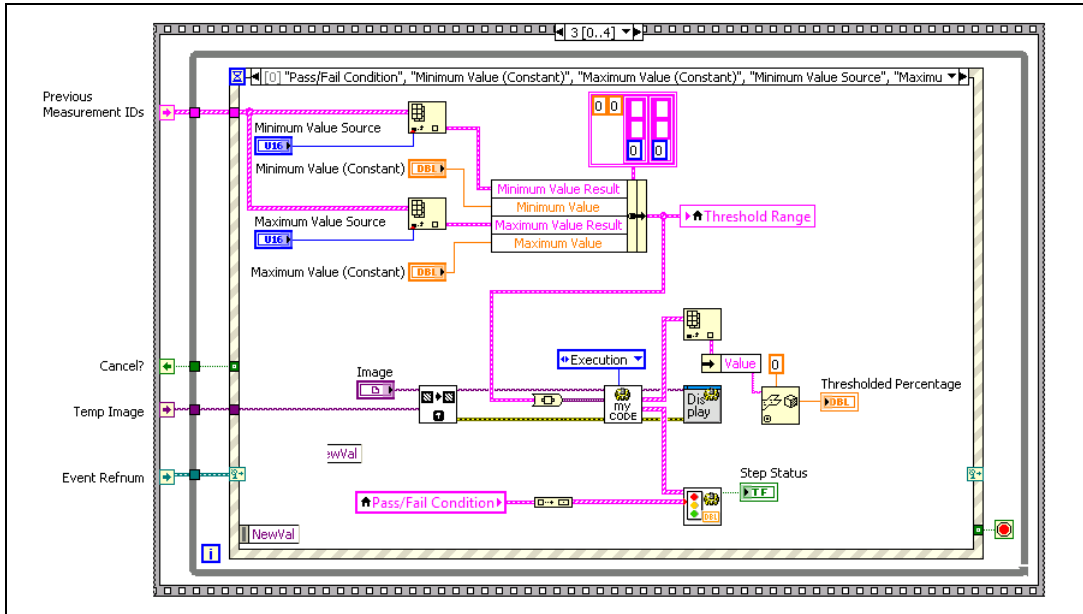

Figure 5-7. Handling Previous Measurement Selections
5. Place a Bundle By Name function inside the event structure. Expand the Bundle By Name function to display four elements. Complete the following steps to configure the Bundle By Name function as illustrated in Figure 5-7:
6. Complete the following steps to build the block diagram illustrated in Figure 5-7: